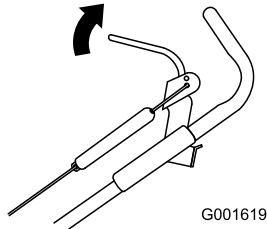

Figure 19
1. Move the control bar back toward the handle until you remove the slack in the cable (Figure 19).